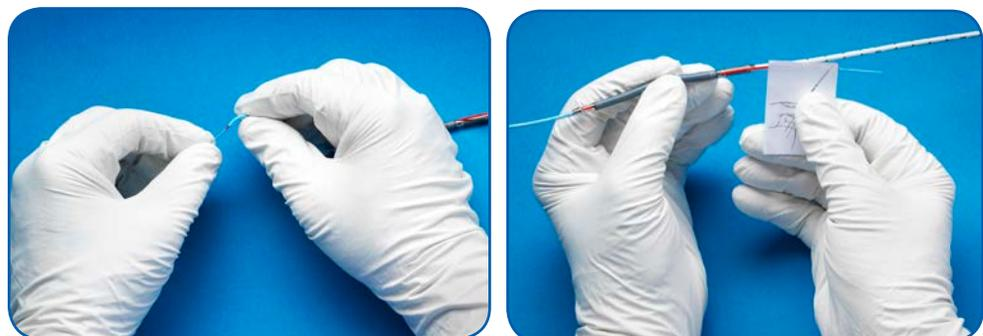

Figure 5.22 Loading the Catheter on the Guidewire using the EasyGuide Lumen
9. Insert the placement guidewire into the red EasyGuide lumen at the tip of the pigtail as shown in Figure 5.22. **(If the red EasyGuide lumen has been removed, follow the procedure outlined in step 10.)**
- b. Remove the EasyGuide lumen by gently pulling the label in line with the catheter shaft while holding the Impella® Catheter as shown in Figure 5.22.